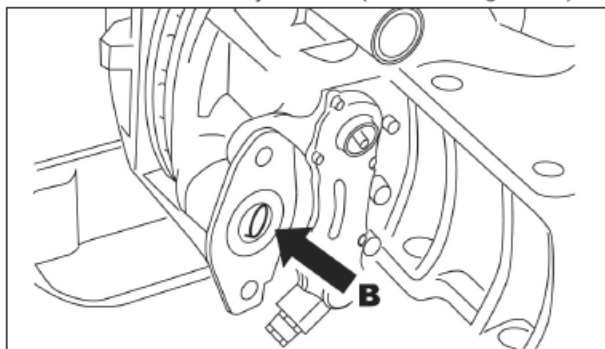

Figure 13: Spring Brake Installation
17. Ensure the spring brake chamber mounting is clean and free of any debris. See **Figure 13, Item B**.